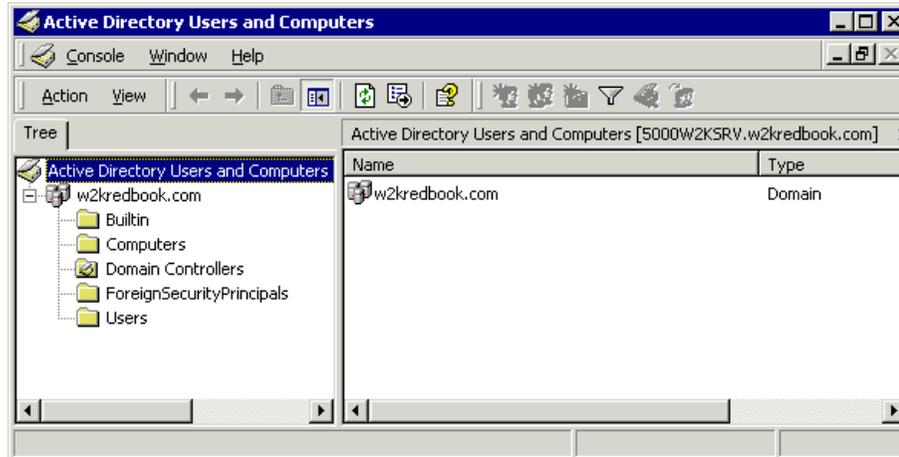

Figure 3. Active Directory Users and Computers
- Active Directory Users and Computers shown in Figure 3 is one of many tools used to manage Active Directory. This replaces the Windows NT 4.0 User Manager for Domains and the Server Manager tools.